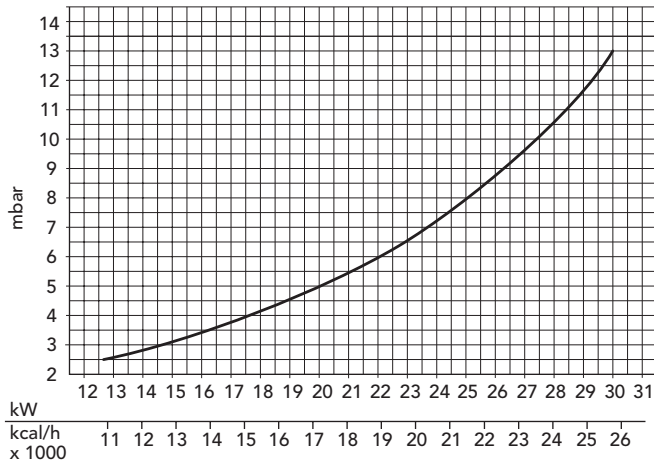

Fig. 4
N.B. - **The gas pressures at the burner and gas flows during the central heating phase given in the table refer to nominal boiler output. To reduce this output (where necessary), gas pressure must be reduced until the required output level is reached (see figures 4 and 5).**
To adjust boiler heat input (thus also regulating heat output to the central heating water) simply adjust the main burner via the electronic control board (fig. 4 and 5 and see paragraph 5.04 page 23).